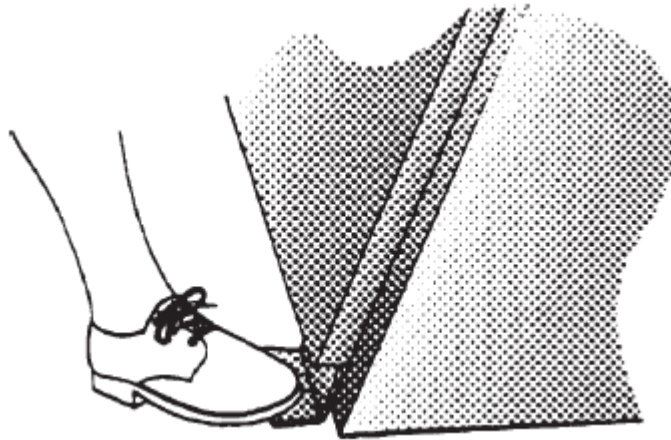

Figure 3-12. Foot Pedal
The sterilizer door is operated at the foot pedal (refer to Figure 3-12).
3. Open drain valve on the side of generator electric box (see Figure 3-12).
5. Ensure water supply valve to generator is open (see Figure 3-12).